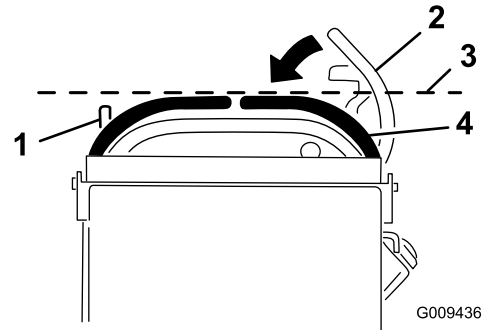

Figure 64
3. Push the right motion-control lever down out of the NEUTRAL-LOCK position (Figure 64).
4. Check if the right motion-control lever aligns horizontally with the left motion-control lever (Figure 64).